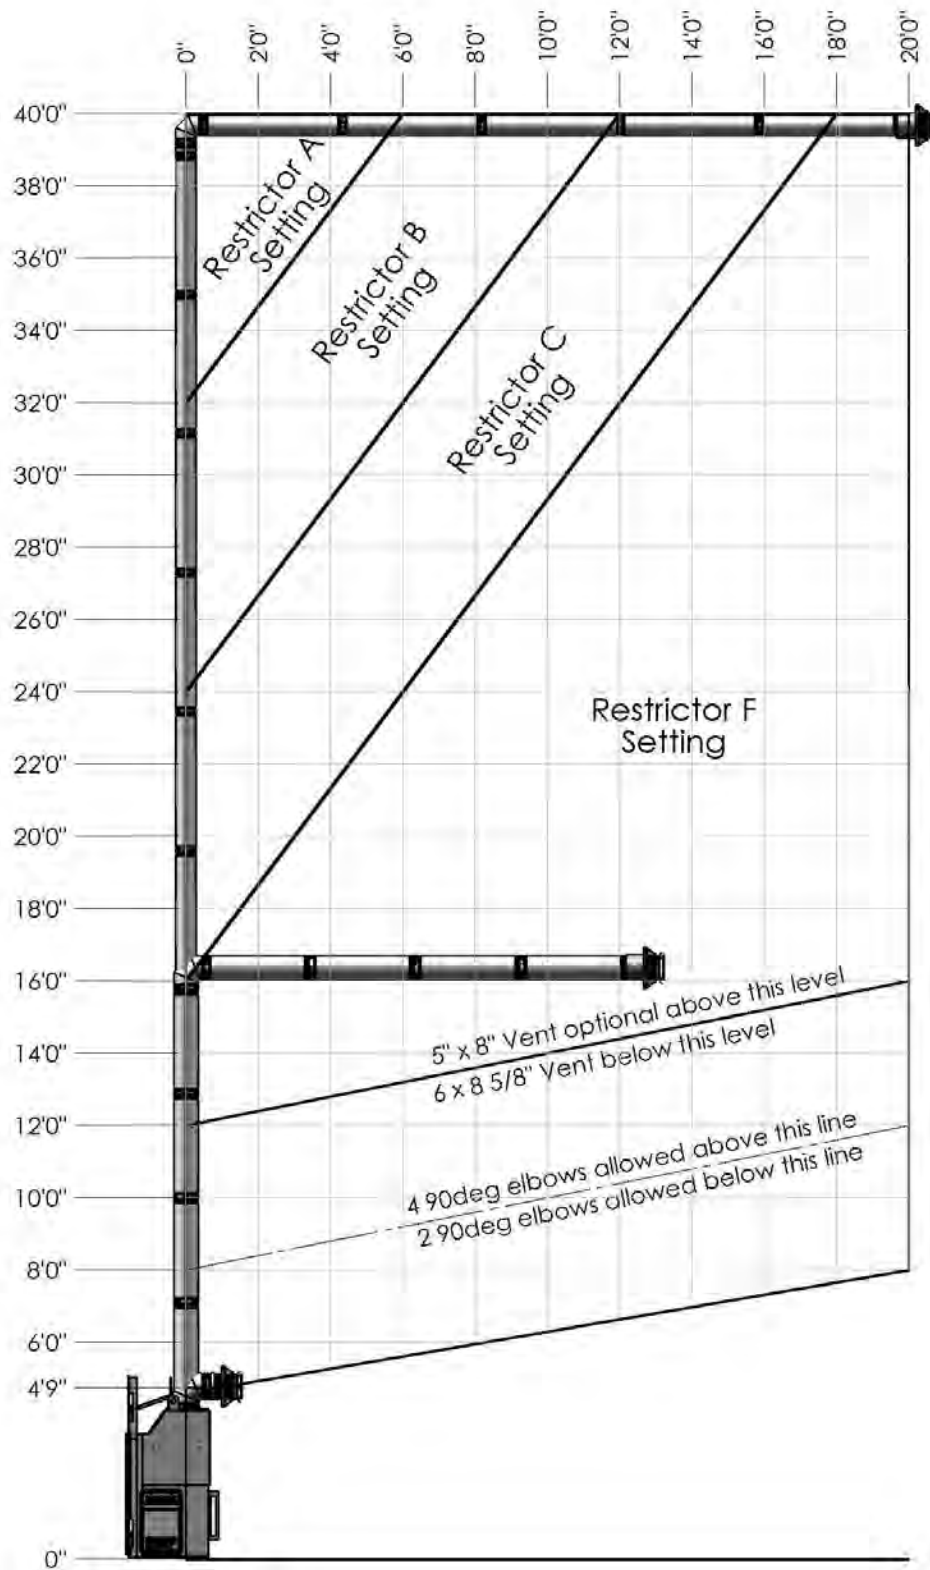

Figure 21. Allowable Vent Configurations Chart.
The vent chart, in Figure 21, illustrates the vent configurations that have been tested and approved for use with this appliance. 45° elbows are acceptable for this installation and may be used instead of 90° elbows. You may use two (2) 45° elbows for every 90° elbow shown in this chart.
The restrictor settings shown in Figure 21, are recommended. Installation factors such as altitude, prevailing weather conditions such as temperature or wind, or the number of elbows used may affect your final restrictor settings. Insufficient restriction may cause pilot outages or reduced efficiencies. Too much restriction may lead to elevated operating temperatures, poor flame appearances, sooting or carbon deposits building up on burner effects or window glass.
The DV62 has a built in adjustable flue restrictor. Set the flue restrictor before you install the firebox liners. The flue restrictor pivots in the middle and is secured with a T20 screw. Refer to the Venting Chart (Figure 21) to determine the correct setting. The vent chart shows the range of vent setups that you can use when installing the DV62. The vent chart shows an appropriate restrictor setting for the vent run that you are using.
- Step 2.** Direct Vent pipe and fittings are designed with special twist-lock connections. Assemble the desired combination of pipe and elbows to the appliance. See the sections on TYPICAL FRAMING - INTERNAL CHASE, EXTERNAL CHASE OR CORNER INSTALLATION for some of the possible vent pathway options. All installations must fall within the Allowable Vent Configurations shown in Figure 21.